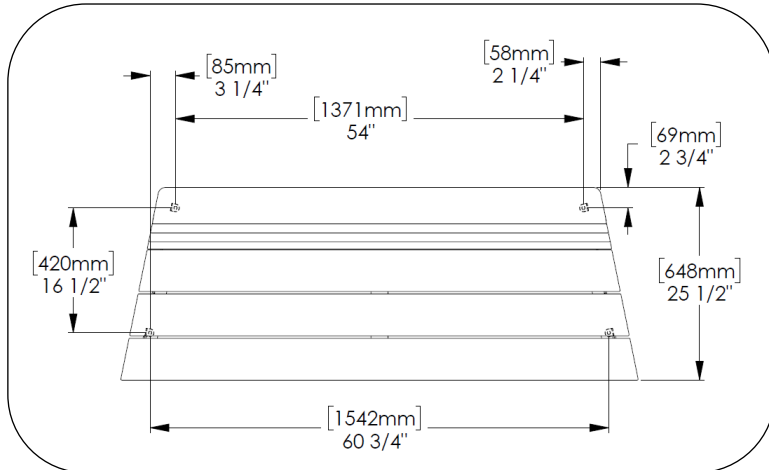

FIG. 1 – ANCHOR TAB LOCATIONS – PLAN VIEW FOR REFERENCE ONLY
2. Set unit in position. Mark hole locations. Dimensions given in Fig. 1 are for reference only and should not be used to locate anchors.